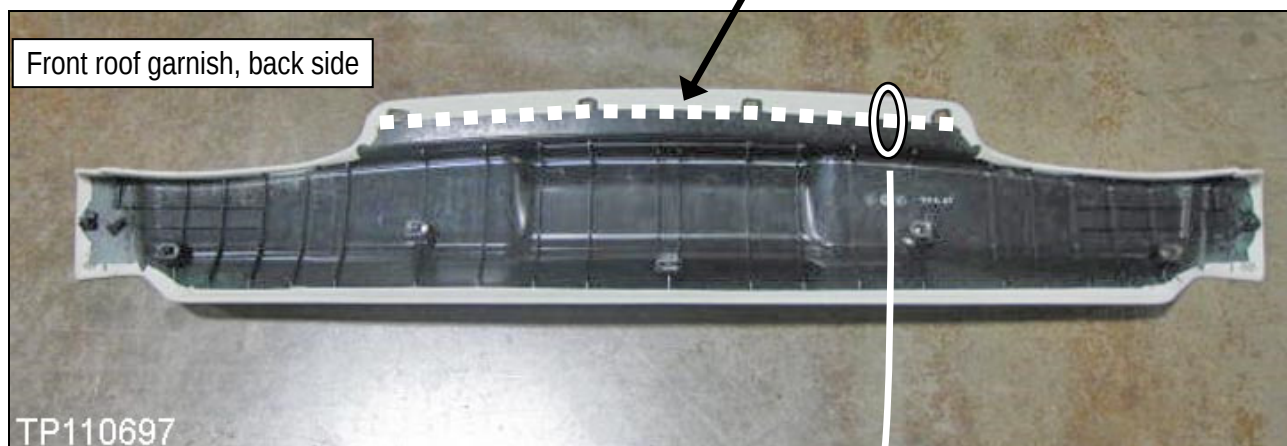

Figure 9f
11. Apply felt cloth (from the roll of tape) along the white dotted line in Figure 9f.